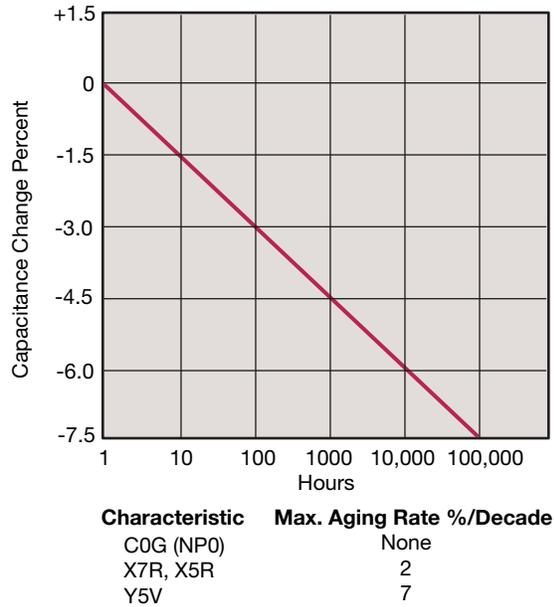

Figure 6
**Effects of Time** – Class 2 ceramic capacitors change capacitance and dissipation factor with time as well as temperature, voltage and frequency. This change with time is known as aging. Aging is caused by a gradual re-alignment of the crystalline structure of the ceramic and produces an exponential loss in capacitance and decrease in dissipation factor versus time. A typical curve of aging rate for semistable ceramics is shown in Figure 6.